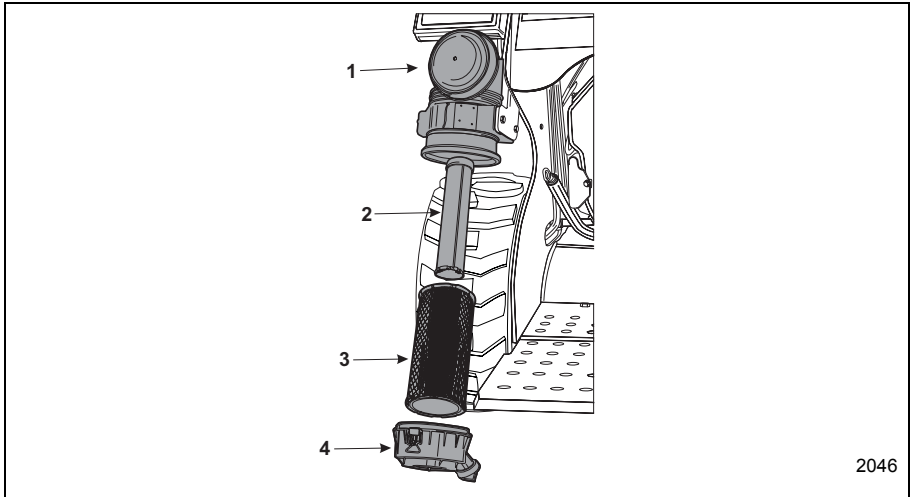

Figure 4–19 Check Engine Air Filter
- a. Unhook the two retaining clips and remove the end cap (Item 4, Figure 4–19) from the air cleaner housing (Item 1, Figure 4–19).
- b. Pull the outer air cleaner element (Item 3, Figure 4–19) out of the housing.